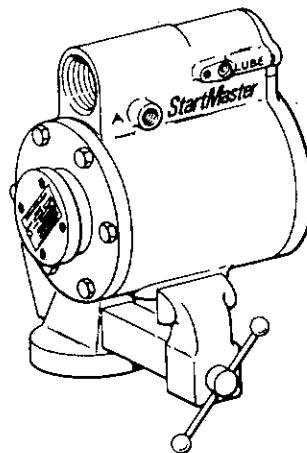

Figure 6.2
2. Clamp muffler flange in vise equipped with copper lined jaws, as shown in Figure 6.2.